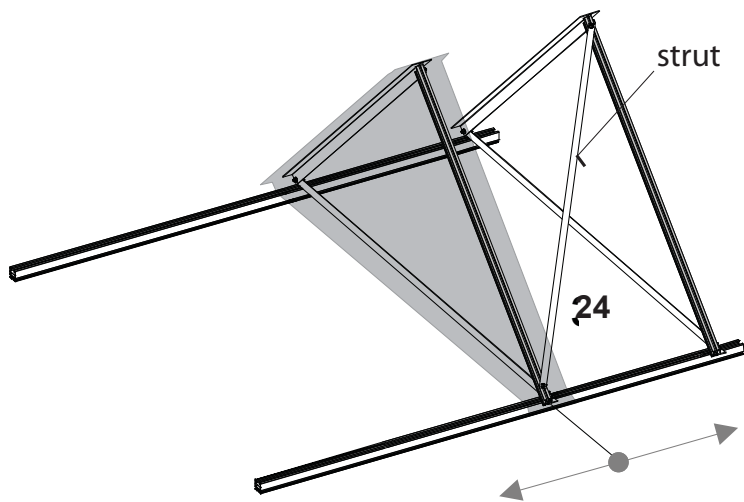

Fig. 19: Fixing the strut
- fix the strut to a triangular support and to the rail (see Fig. 19). One strut is sufficient for one set of supports (up to the rail length of 6.15 m).